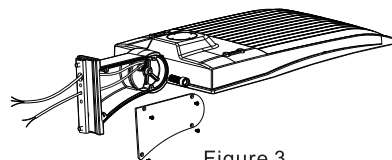

Figure 3
- Step 1: Remove the mounting screws on the fixture, open the side lid of mounting and run the wires through the mounting. (Figure 3)